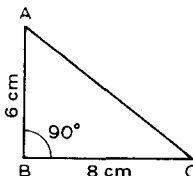

Fig. 1.75
**Example.** In a right-angled triangle the two sides forming the right-angle are 6 cm and 8 cm long respectively. Find the length of the hypotenuse. From Fig. 1.75,